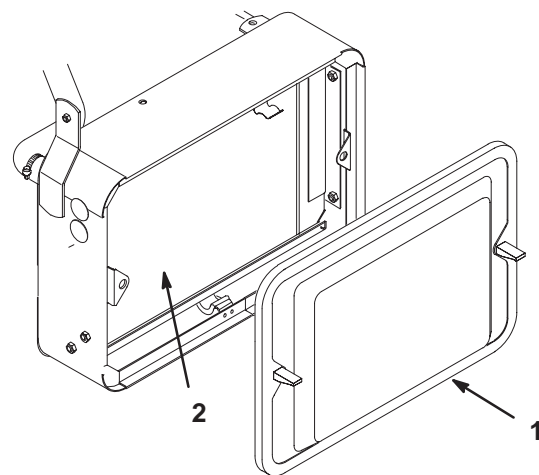

Figure 36
1. Remove the radiator screen (Fig. 36).